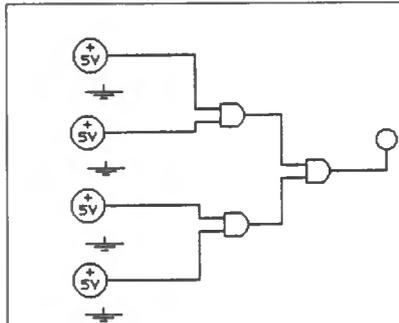

Fig. 7.21 Multiple-input AND gate (Assignment 7.2).
1. Connect the circuit shown in Fig. 7.21. The output of the circuit is connected to a logic level indicator whilst the four inputs are derived from +5V and ground points. Switch on the power and test the circuit by constructing its truth table. Confirm that the circuit provides a four-input AND function.